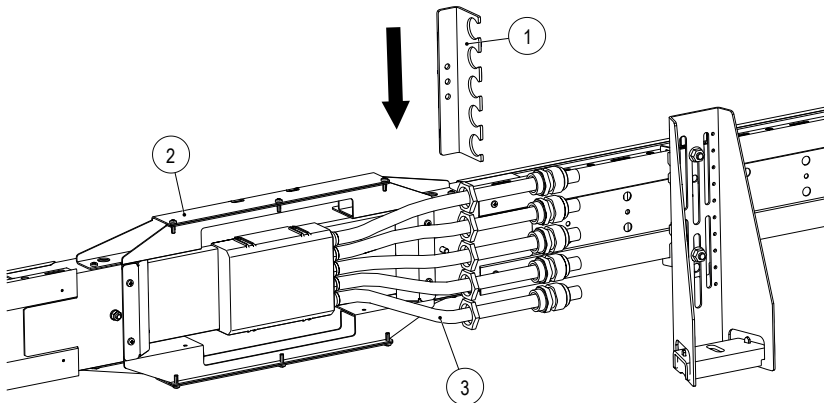

Fig. 78: Slide strain relief plate (1) behind the connecting cables
- Slide the strain relief plate (1) onto the fastening frame (2) and behind the connecting cables (3) so that the individual connecting cables are seated in the protrusions of the strain relief plate (1) (see Fig. 78).